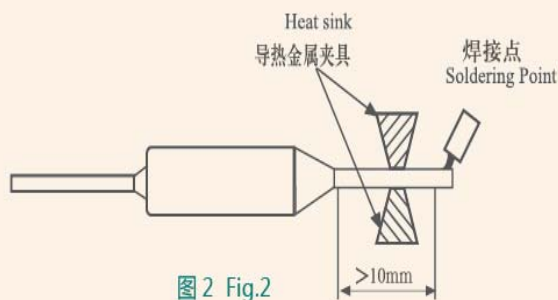

图 2 Fig.2
- B. 若温保要用焊锡或浸锡方式与线路连接时，焊锡或浸锡处最好距温保本体 10mm 以上，在 300℃ 状况下焊锡或浸锡时间应控制在 1 ~ 2 秒内为宜，若使用低于 113℃ 的保险丝尽可能不要采用焊锡或浸锡方式。无论是烙铁焊、电焊还是浸锡，都应尽量在短时间内完成，并且要一边焊接一边散热，防止由于受热而发生早断、开路。（见图 2）
- B. If soldering connection is necessary, TCO leads should be heat sink, soldering point should be at least 10mm away from the body of TCO and soldering time should be controlled within 1–2 seconds. It is recommended not to used soldering connection if the rating of TCO is less then T_f 113 ~C, to avoid damage to the TCO. (see Fig. 2)